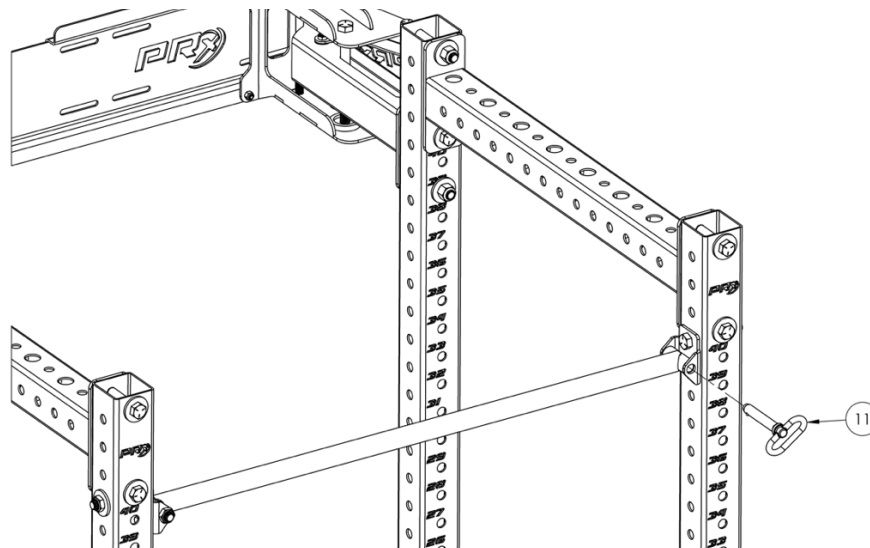

Figure 9: Using the pull-up bar
3. To use the pull-up bar, insert the hitch pin (11) through the bracket and pull-up bar. This pin functions as the locking mechanism for the rack and will need to be removed before folding (**Figure 9**).